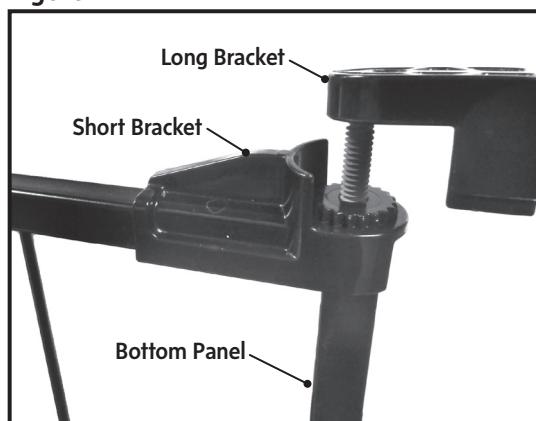

Figure 2
**Step 4.** Remove the Corner Caps from the two aluminum corners of your raised bed. Slide the Long Brackets into the aluminum corners until they are completely seated (Figure 2).